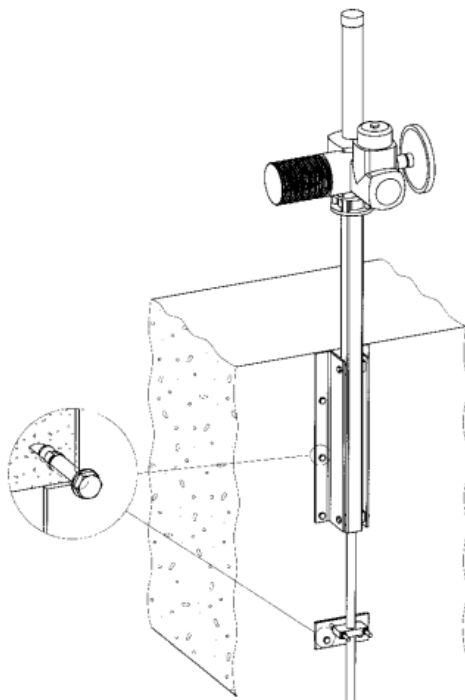

Fig. 14
- Align coupled extension rod with plumb and level acc. Fig. 14.